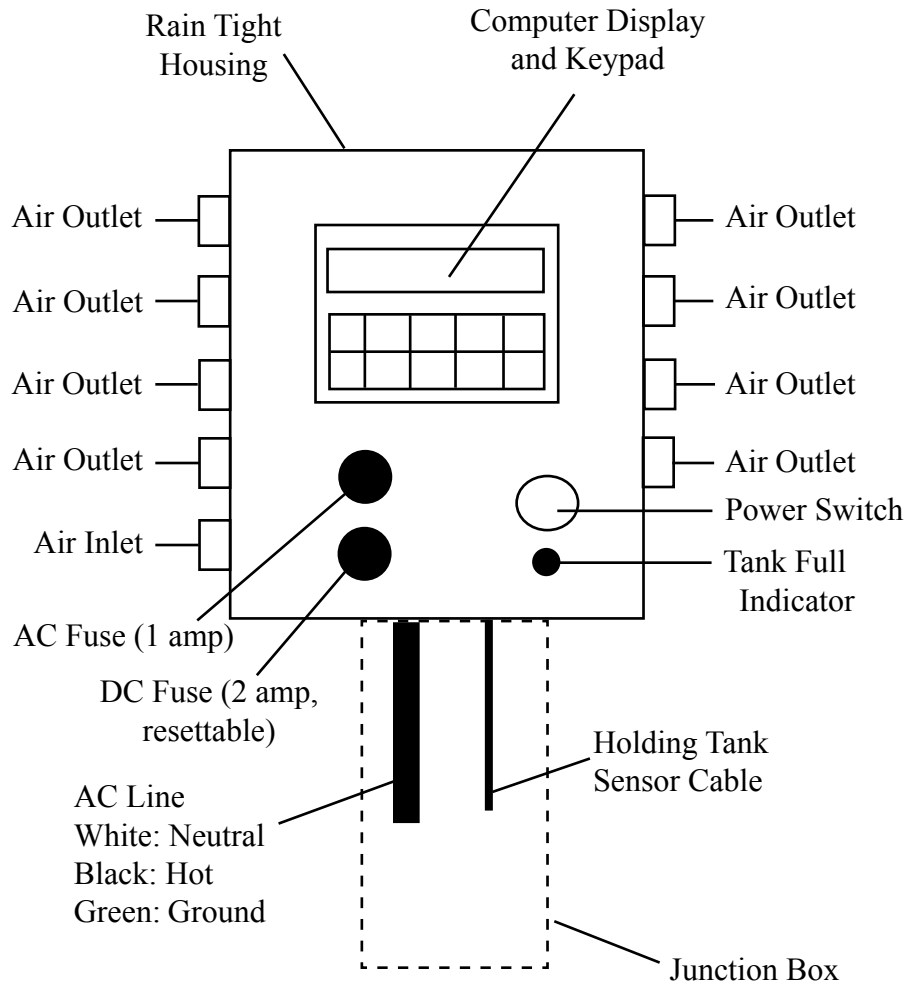

Figure 5
STEP 1. Mount programmable Controller Model 5500ES (Figure 5) in a vertical position near the air source, power source, and holding tank if possible. **CAUTION:** The Model 5500ES is NOT intrinsically safe. If this controller must operate in a CLASS I area, use the XITECH Model 2550ES CLASS I Controller instead. Air supply needs to be free of WATER and OIL to have minimum maintenance.
STEP 2. Install holding tank shutoff assembly into holding tank (a 2" standard pipe inlet will be required in the holding tank). The level of product in the holding tank can be set by raising or lowering the liquid level float switch rod. Wire the shutoff switch cable into the controller (Figure 5). **NOTE:** If additional signal cable is needed to position the holding tank assembly further away from the controller, use 18 gauge 2-conductor wire.
STEP 3. Attach power line from the AC or DC power source to the controller (Figure 5). Turn on the controller power switch. If the red "Product Tank Full" light stays on, you have a problem with tank shutoff wiring. Turn off the power switch and re-check the tank shutoff wiring. If the light continues to stay on, call the factory.